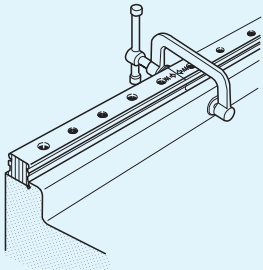

Fig. 43 Method to butt-joint track rails
- 2 Correctly align the reference mounting surface of the track rail with that of the bed in order. At this point, use a small type vise or the like to stick the reference mounting surfaces of the bed and track rail together so as to eliminate any step at the joint part of the track rail. (See Fig. 43)